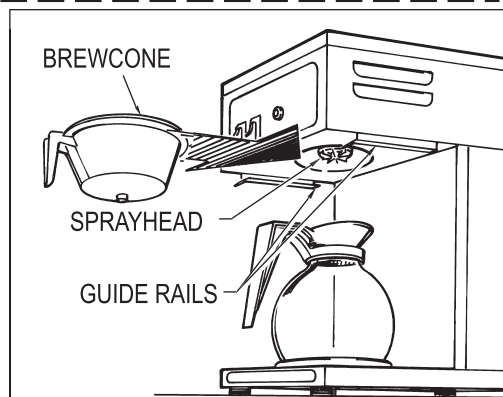

Figure 1. Sprayhead and brewcone
3. Insert an empty brewcone into the brew rails unit (fig. 1.).
2. Slide brew cone into guide rails (fig. 1.). Place clean decanter on warmer plate (use an airpot when brewing with Café AP).